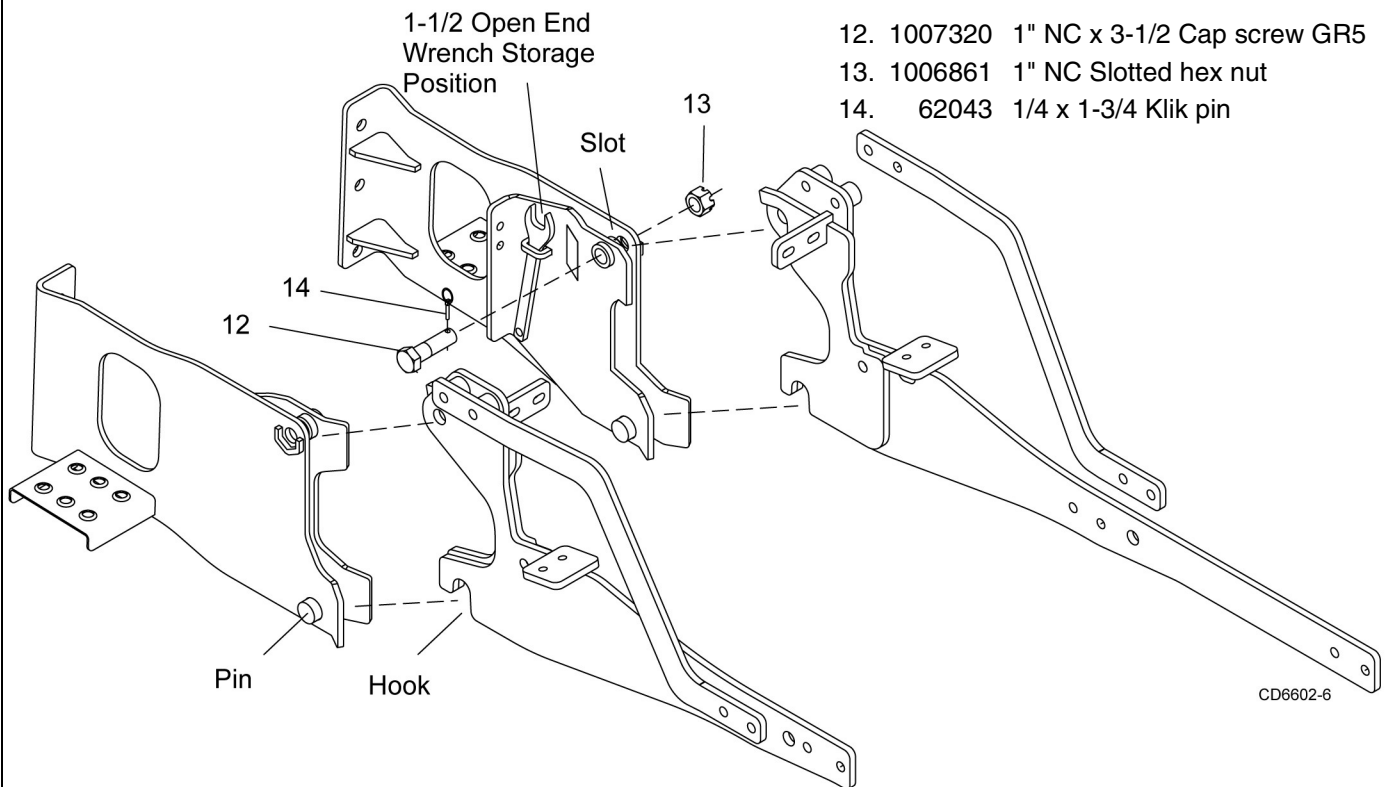

Figure 26. Backhoe to Tractor Installation
Refer to Figure 26.
10. Install cap screws (12) and slotted hex nuts (13). Tighten with 1-1/2 inch open end wrench provided with kit. Return wrench to storage position (see Figure 26).
11. Secure hex nut into position with klik pin (14).
6. Use 1-1/2 inch open end wrench supplied with the mounting kit to remove hex nuts. Return wrench to storage position (see Figure 26).